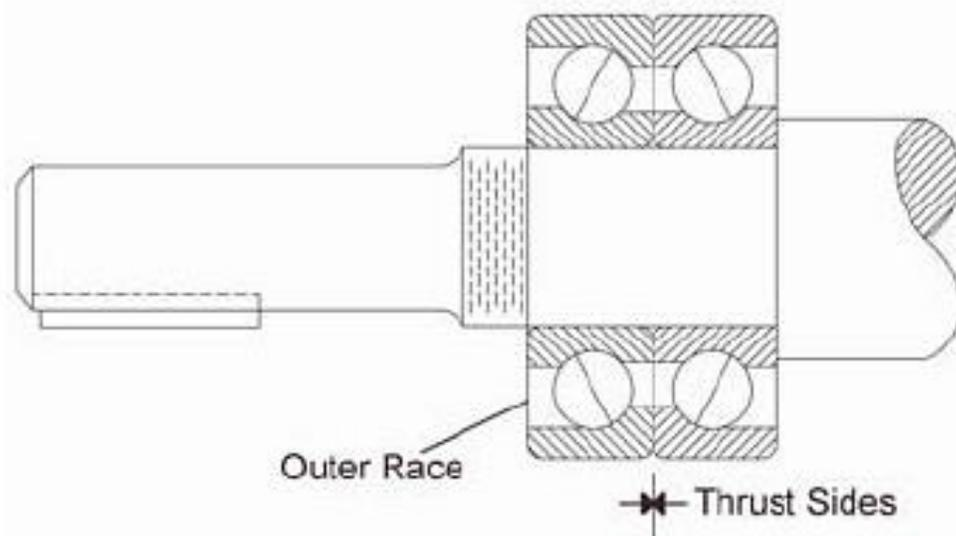

Figure V-3: Duplex Angular Contact Bearings
5. Duplex angular contact bearings must be mounted back to back with the wider thrust sides of the outer races in contact with each other as shown in Figure V-3.